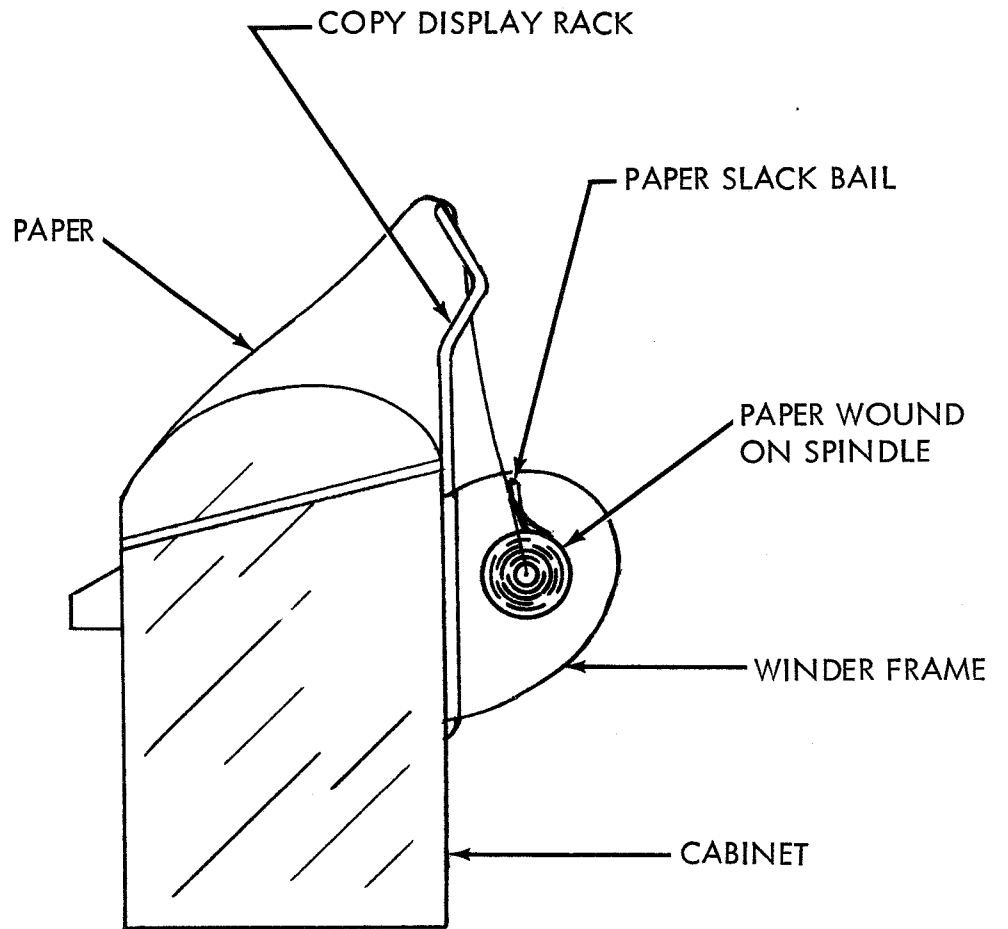

FIGURE 4. PATH OF PAPER FROM PRINTER UNIT TO PAPER WINDER SPINDLE
- d. See Figure 4 for path of paper from printer unit to paper winder spindle.